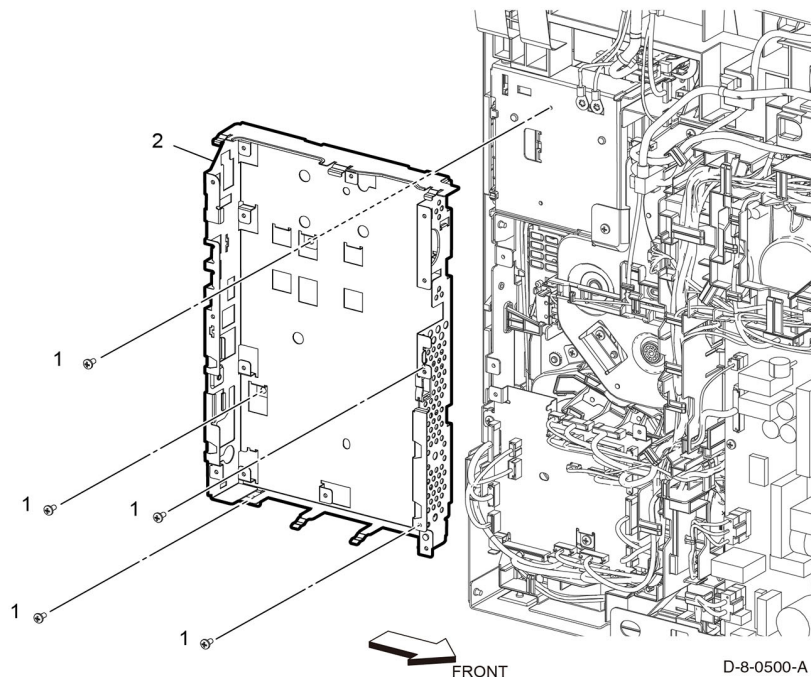

Figure 1 AIO ESS box removal
3. Remove five screws (1), then remove the AIO ESS box (2), Figure 1.